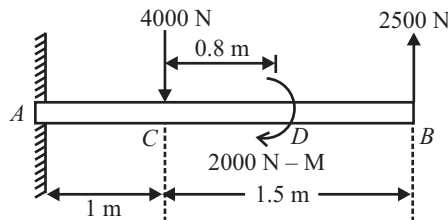

Fig. 7.52
Q. 41: Fig. 7.52 shows two vertical forces and a couple of moment 2000 Nm acting on a horizontal rod, which is fixed at end A.